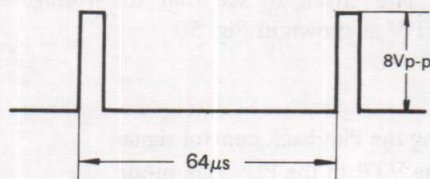

Figure 58
- ① Use the alignment tape only, while placing the VTR in the Playback mode.
- ② Using the negative slope of the vertical sync signal through the oscilloscope, observe the TP208 (SYNC-OUT) and check to see that the periods are at an interval of 64 msec. as shown in Fig. 58.
- ③ Place the VTR in the VS-FWD mode.
- ④ Fine adjust the VS-FWD Control (R719) so that the periods of the pulse out from TP208 are at an interval of 64 msec. as shown in Fig. 58, and then check to see that the noise bar on the TV monitor vertically flows down.
- ⑤ Place the VTR in the VS-REV mode.
- ⑥ Fine adjust the VS-REV Control (R720) so that the periods of the pulse out from AG-Pin 7 are at an interval of 64 msec. as shown in Fig. 58., and then check to see that the noise bar on the TV monitor vertically flows upwards.